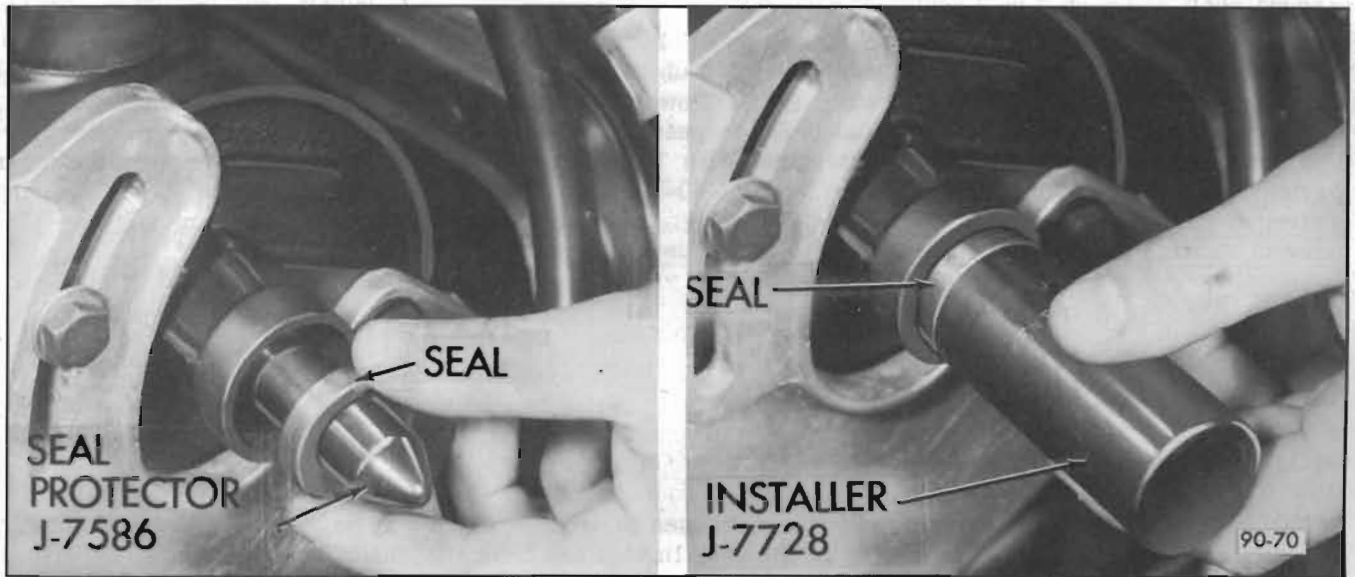

Figure 90-70—Installing Oil Pump Shaft Seal
1. Place Seal Protector J-7586 over shaft. Lubricate new seal with Buick Power Steering oil and drive in pump housing spring side first with Installer J-7728. See Figure 90-70. Just bottom seal in housing. Excessive force must not be used when driving seal in place.